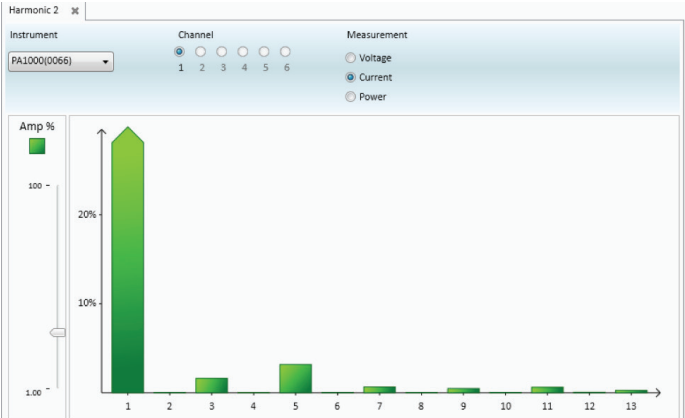

Figure 7. Harmonic barchart.
- The results can also be viewed in a graphical form. To display charts and graphs, click on the Graphs tab. From there, select either Harmonic or Waveforms to view data in a graphical format. An example of a bar chart is shown in Figure 7.